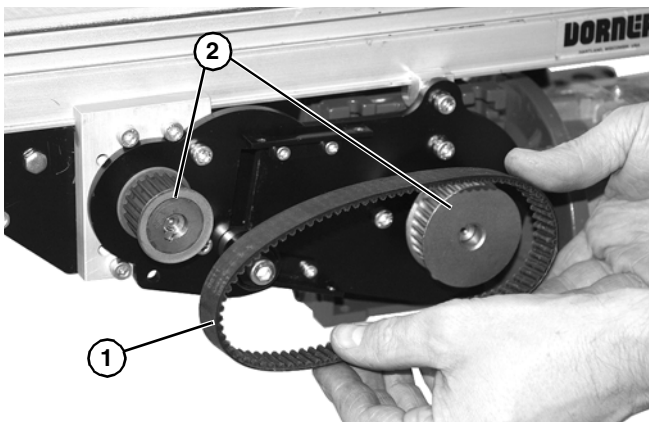

Figure 5
7. Install belt (**Figure 5, item 1**) and both pulleys (**Figure 5, item 2**).